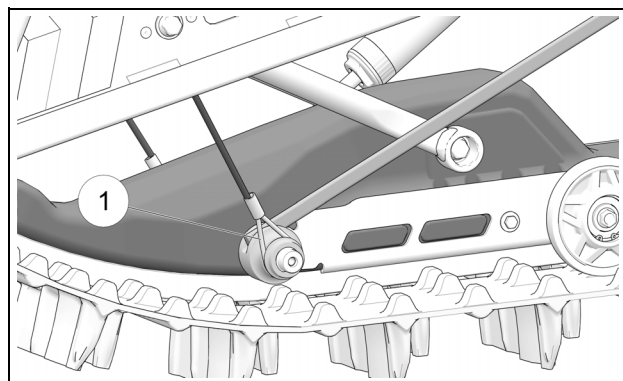

Figure 10
- Depress suspension to allow removal of limiter cable loop (1) from groove in spring support bushing. See Figure 10.